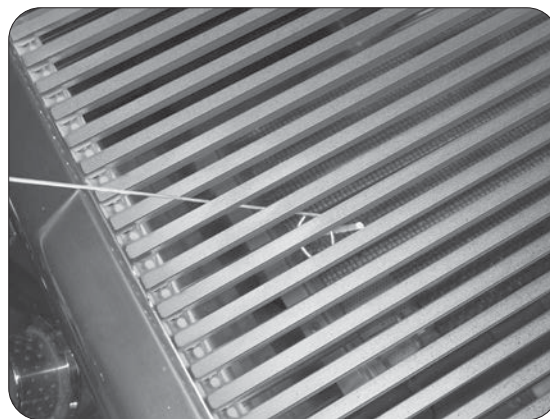

Fig. 27-2 - Manual lighting
2. Insert either a burning long-barrel butane lighter, a burning long-stem match, or a burning match held by a wire extension holder through the cooking grid opening to the top of the burner (Fig. 27-2).
4. If the burner does not light within five (5) seconds of turning the control knob, **immediately depress the knob and turn the valve to OFF**. **WAIT FIVE (5) MINUTES** before repeating steps 2 through 4 of the **MANUAL LIGHTING** instructions.